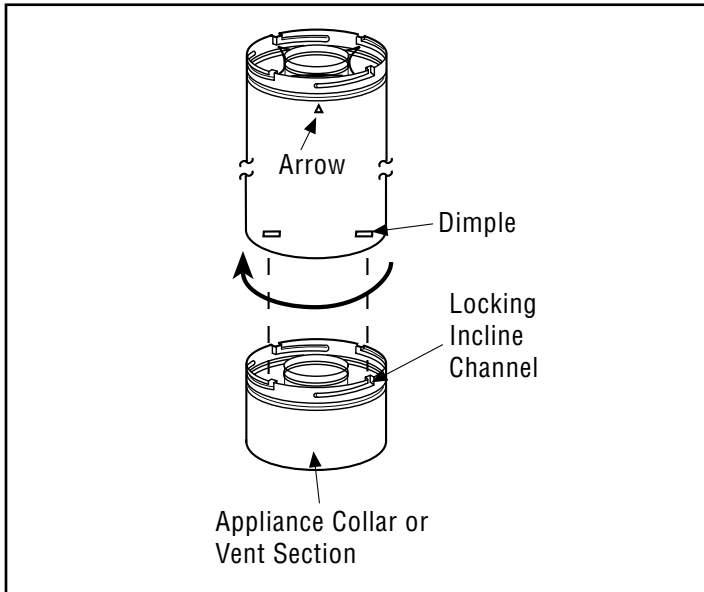
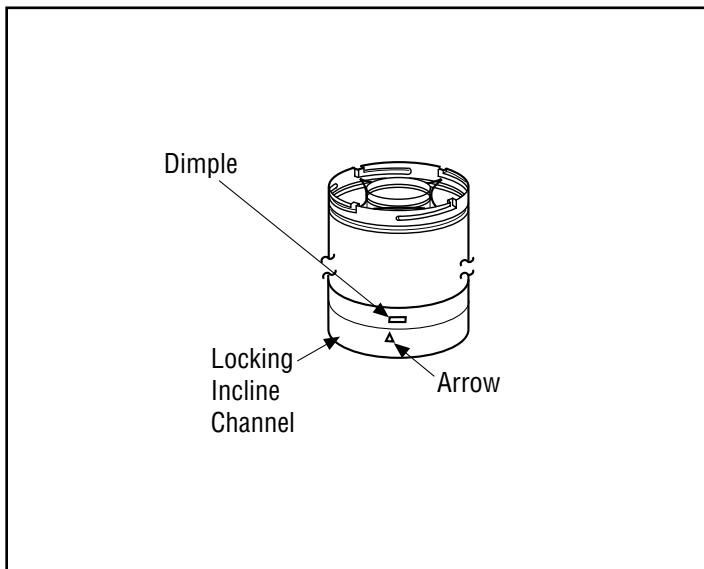

Figure 11 - Connecting vent components
Figure 12 - Connected vent components
Direct-vent system components are unitized concentric pipe components featuring positive twist lock connections (**Figure 11** and **Figure 12**). All of the fireplaces covered in this document are fitted with collars having locking inclined channels. The dimpled end of the vent components fit over the fireplace/vent collar to create the positive twist lock connection.
1. Align the dimpled end over the collar, adjusting the radial alignment until the four (4) locking dimples are aligned with the inlet of the four (4) inclined channels on the collar (**Figure 11**).
3. If desired, a #6 x 1/2" screw can be used at the joint, but is not required as the pipe will securely lock when twisted (**Figure 12**).